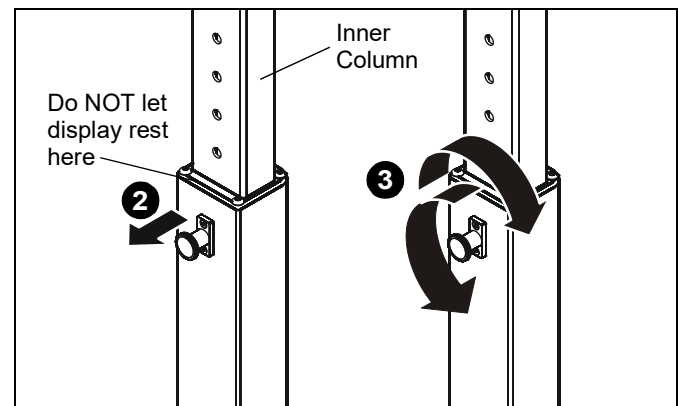

Figure 8
2. Adjust the stand to the desired height by slightly lifting the head assembly, pulling out knob on the center post and turning 90° in either direction to disengage the locking mechanism. (See Figure 8)
3. Raise or lower the center post, then turn the knob 90° either direction to engage the knob and lock the stand at desired height. (See Figure 8)
IMPORTANT ! : Set the height of the stand so the display does NOT rest on the lower part of the center post. (See Figure 8) Always set the height so the knob is engaged in a hole in the center post.